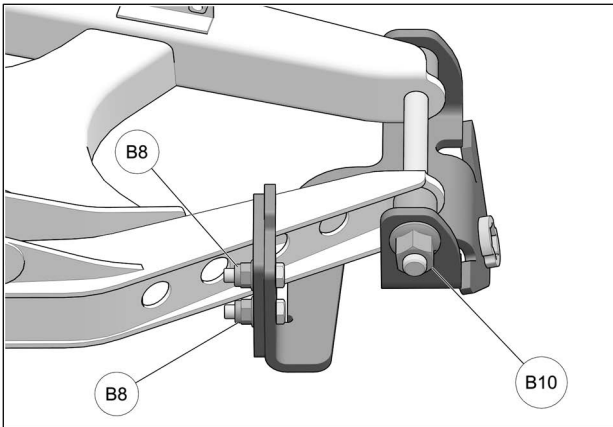

Fig. 11
11. Tighten M14 nut (B10) to 95 Nm [70 lb•ft] of torque and then M8 nuts (B8) to 25 Nm [18 lb•ft]. Fig. 11